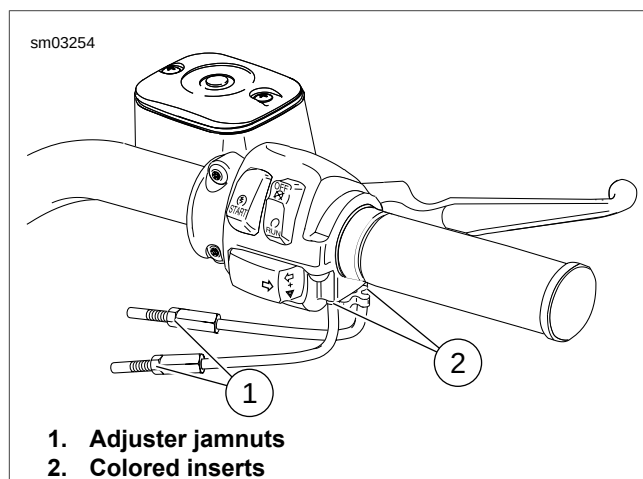

Figure 2-85. Handlebar Throttle Control
1. See Figure 2-85. Loosen cable adjuster jamnuts (1). Screw throttle cable adjuster until it is as short as possible. Remove the two screws that hold the handlebar housing together to separate the upper and lower housings.